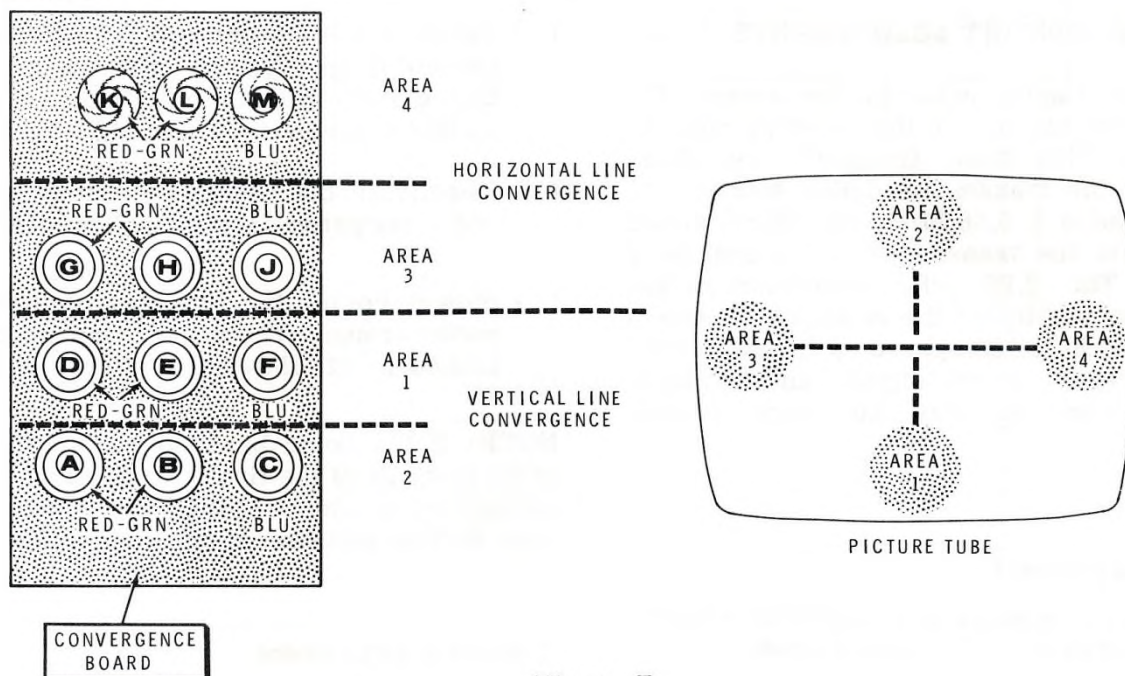

Figure 7
A typical convergence board is shown in Figure 7. The areas of the picture tube screen affected by the various dynamic convergence controls are also shown in this figure.
Refer to Figure 7. Note that the convergence circuit board is divided into four rows of controls and coils. The two rows at the bottom converge the vertical center line in areas 1 and 2 on the picture tube screen. The two rows at the top converge the horizontal center line in areas 3 and 4 of the screen.
- ( ) Figure 7 shows the area where each horizontal convergence control or coil is most effective. Refer to this Figure to see which dots each control or coil will move, and see which way they will move.